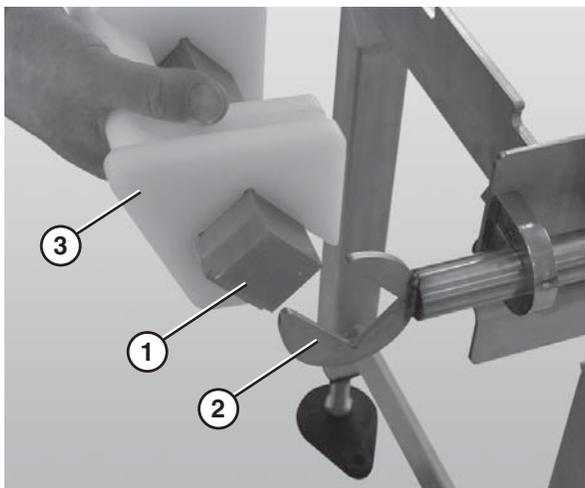

Figure 65
- Slide the nose bar drive or transfer post (Figure 65, item 1) out of the nose bar drive weldment or idler hands (Figure 65, item 2).
- Remove the nose bar tracking pucks (Figure 65, item 3), if applicable.